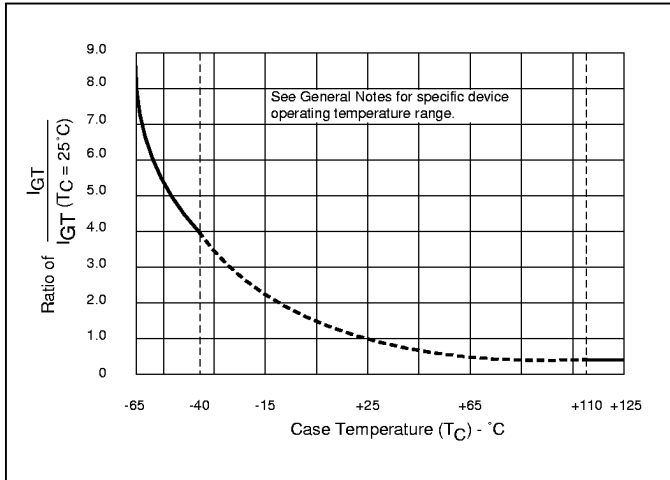

Figure 5.10 Normalized DC Gate-Trigger Current vs Case Temperature
- (2) See Figure 5.10 for  $I_{GT}$  vs  $T_C$ .